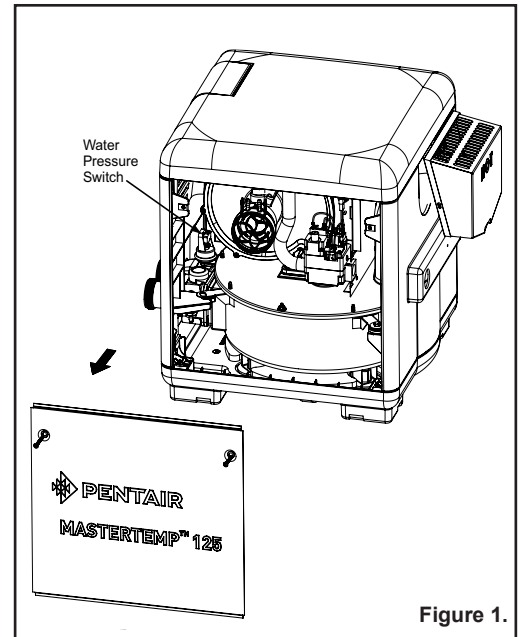
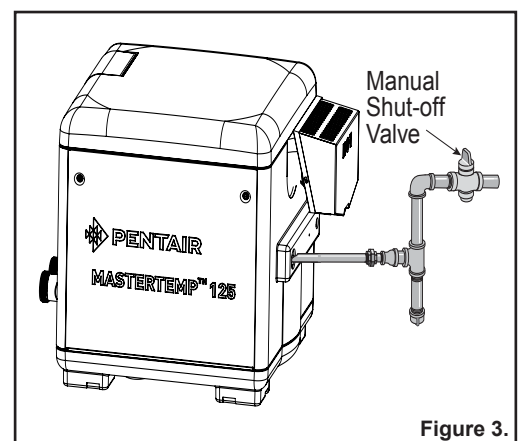

Figure 1.
Figure 3.
- Turn off all electric power to the appliance. **Turn OFF the Outside Manual Shut-Off Valve (Figure 3).**
- Remove the access door panels by unfastening the two (2) screws located on each door, then lift up and out from the bottom of the panel to remove. If necessary, the screws may be used as handles, see Figure 1.
- Wait five (5) minutes to clear out any gas. If you then smell gas, **STOP!** Follow “B” in the “Before Start-up” instructions (page 1). If you don’t smell gas, go to the next step.
- Turn ON the outside Manual Shut-Off Valve (Figure 3).**
- **Turn OFF the outside Manual Shut-Off Valve (Figure 3).**
- Remove the access door panels, see Figure 1.